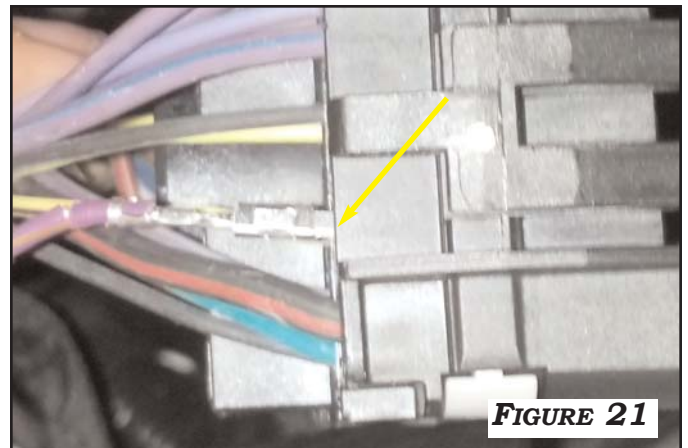

FIGURE 21
6. LIFT UP THE FUSE BLOCK AND REMOVE THE GRAY LOCKING MECHANISM ON THE SIDE OF THE FUSE BLOCK. LOCATE 'PIN 4' IN THE 'X3' FUSE BLOCK AND INSERT THE FUSE TERMINAL FROM THE UNDERSIDE OF THE FUSE BLOCK AS SHOWN IN **FIGURE 21**.